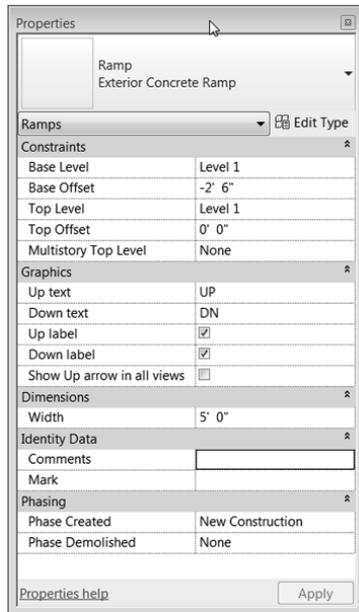

FIGURE 10.81: Setting the properties
13. Set Base Offset to -2'-6" (-750 mm), as shown in Figure 10.81.
15. Set Width to 5'-0" (1500 mm) (see Figure 10.81).